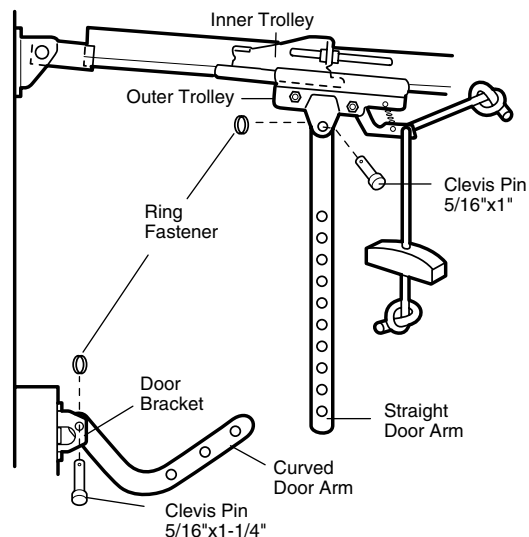

Figure 1
- Mark and drill 8 mm left and right fastening holes. Secure the bracket as shown in Figure 1 if there is vertical reinforcement.
- Make sure garage door is fully closed. Pull the emergency release handle to disconnect the outer trolley from the inner trolley. Slide the outer trolley back (away from the door) about 5 cm as shown in Figures 1, 2 and 3.
• Figure 1: